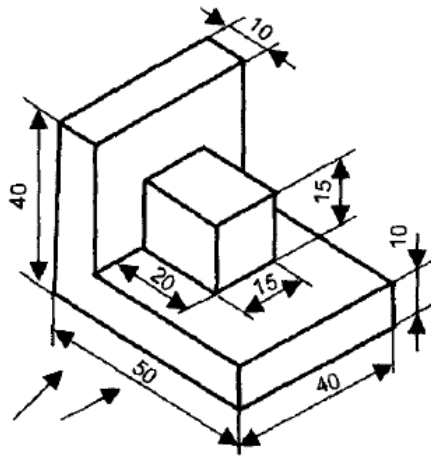

Figure Q1(a)
- (a) The **Figure Q1 (a)** shows isometric view of a Support base. Draw **twice full size** and using first angle projection, the following views: **Front, Top** and **Right side views**. Front view is indicated by the arrow A. Include all hidden details, show dimensions and projection symbol. **(15marks)**